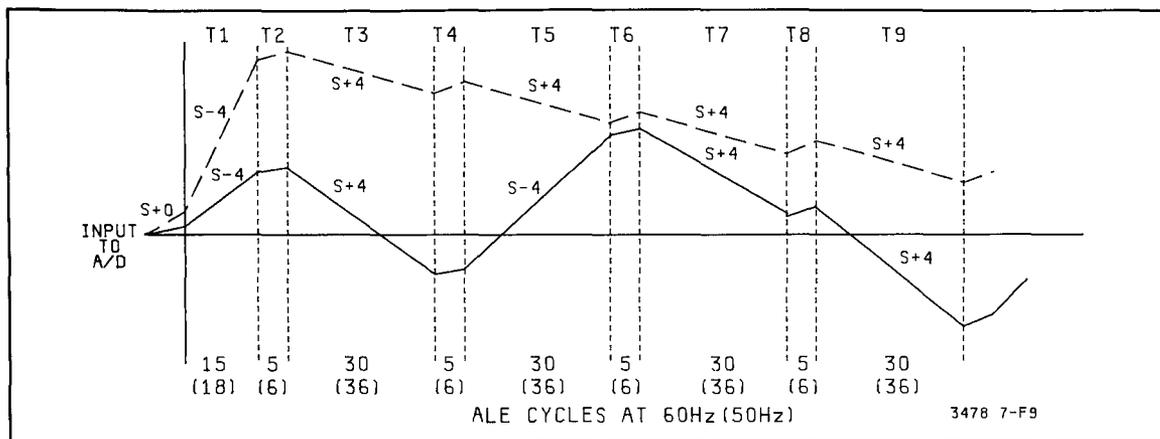

Figure 7-F-9. Runup Slopes (4 1/2 Digit Model)
7-F-37. Detailed Explanation of Runup. Figure 7-F-9 illustrates the 3478A runup operation in the 4 1/2 digit mode. Refer to the figure (and Schematic 3) for the runup explanation in the following steps. The solid lines (in the figure) showing the runup sequence is for a
a. When runup starts, the integrator capacitor (C410) is charged by the input current (which is developed by the input voltage). The input current is applied to the negative terminal of integrator U401 (see Figure 7-F-7), and since the integrator is in the inverting configuration, the resultant output of U401 is positive (for positive input currents the slope is negative). The capacitor is charged for a short time period.